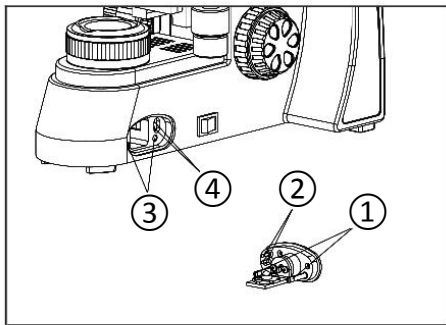

Fig. 4
Align the orientation pin ① and power pin ② on the light source to the oriented holder ③ and power socket ④, then push the light source in until it is flush (see Fig. 4).